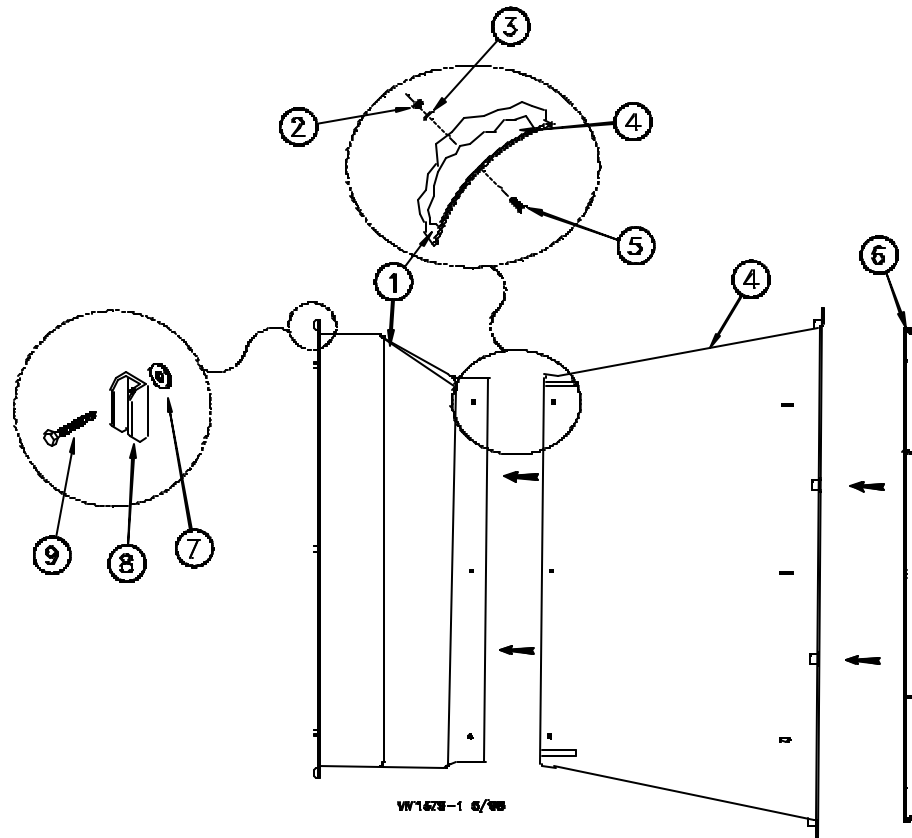

Figure 2. Fan Installation
3. Insert the Fan Assembly in the wall opening and secure using the (12) 1/4 x 1-3/4 Lag Screws, Shutter Clips, and Nylon Washers provided. The Shroud is pre-drilled (3 holes per side). The hardware must be installed as shown in Figure 2 below. This allows rotation of the Shutter Clips when installing the Shutter.
4. Slide the Cone onto the Shroud, as shown in Figure 2. Align the holes in the Cone with the slots in the Shroud. Insert the (6) Wafer Head Bolts from inside the Shroud through the Cone.